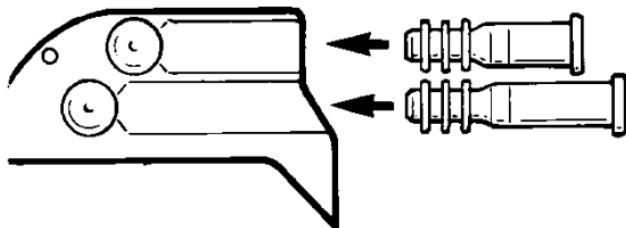

Figure 1. Insert the short and long sizing sleeves into the pulse generator connector.
2. Insert the short sizing sleeve (clear) into the top pulse generator connector port. Insert the long sizing sleeve (white opaque) into the bottom connector port (see Figure 1). If necessary, use sterile water as an insertion lubricant.